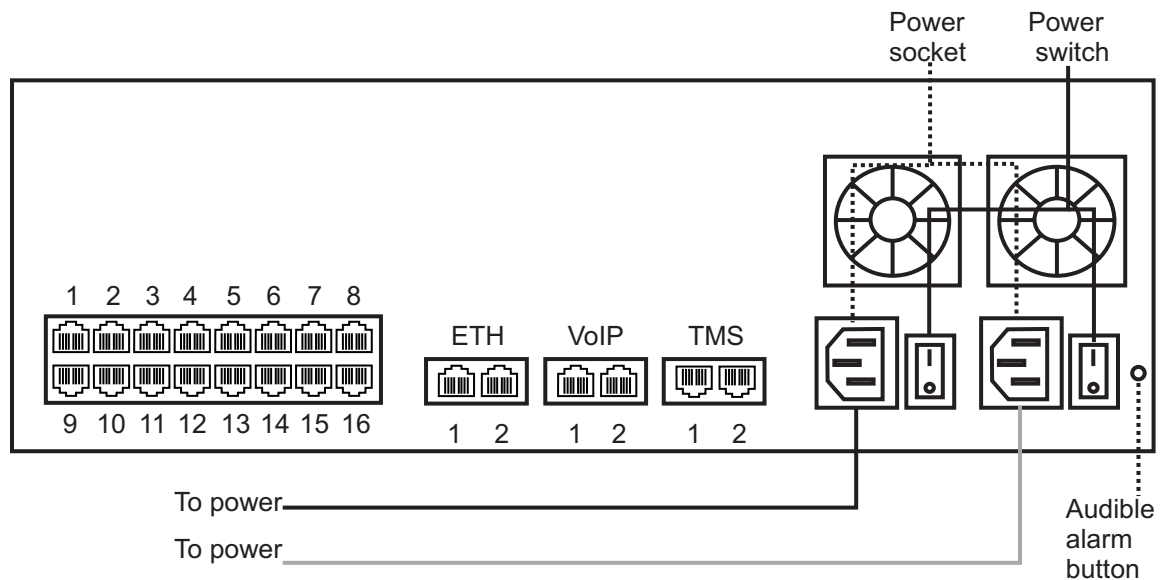

Figure 2.9 AC Power Connection
1. Connect the first AC power cable between the AC connector of the TMG5800 and an AC supply. Connect the second AC power cable between the AC connector of the TMG5800 and a second AC supply source. See figure 2.9 on page 19.
2. It is recommended that each power connector be connected to independent power sources. If the second power supply is not connected to an AC power source, press the green button located at the rear of the unit to disable the audible alarm. See figure 2.9 on page 19.